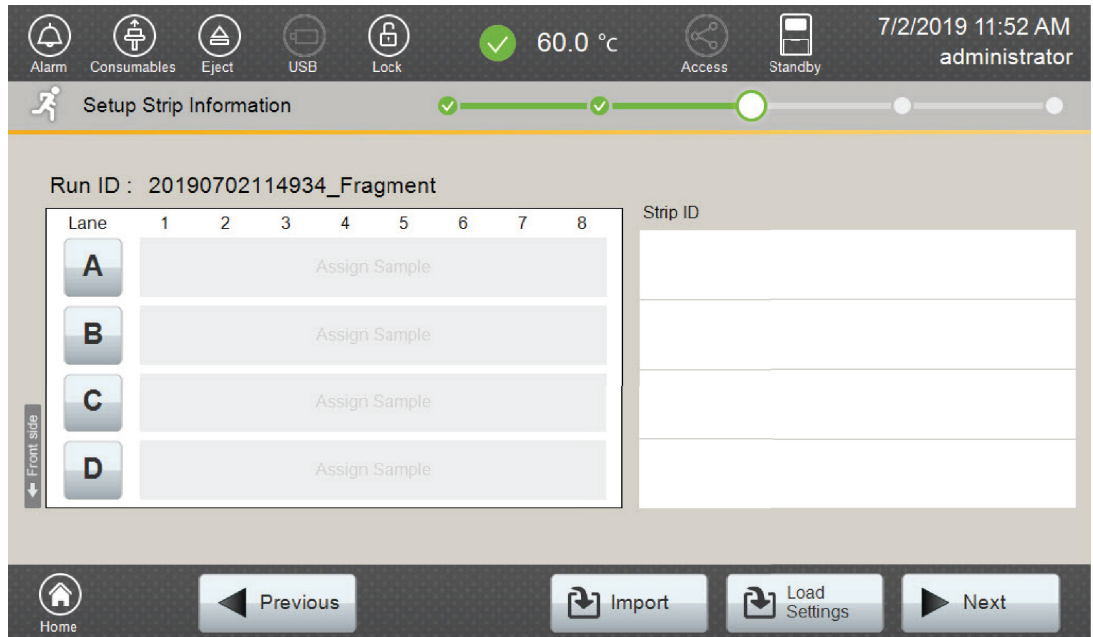

Figure 9. 'Setup Strip Information' screen.
1. Select **Next** on the 'Setup the Strip' screen shown in Figure 8. This will take you to the 'Setup Strip Information' screen shown in Figure 9.